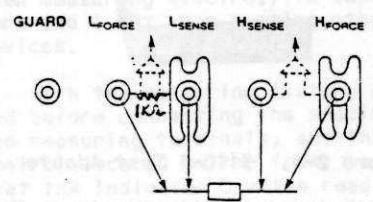

Figure 2-3. 4 Terminal Measuring Method
c. 4 Terminal measuring method. This method eliminates the resistance or residual inductance of lead wires under test or contact resistance with the specimen and is used to measure large capacitance values, low inductance values, and low resistance values. If the connecting cables are long, connect them in the following manner to eliminate measurement errors. Refer to Figure 2-3.